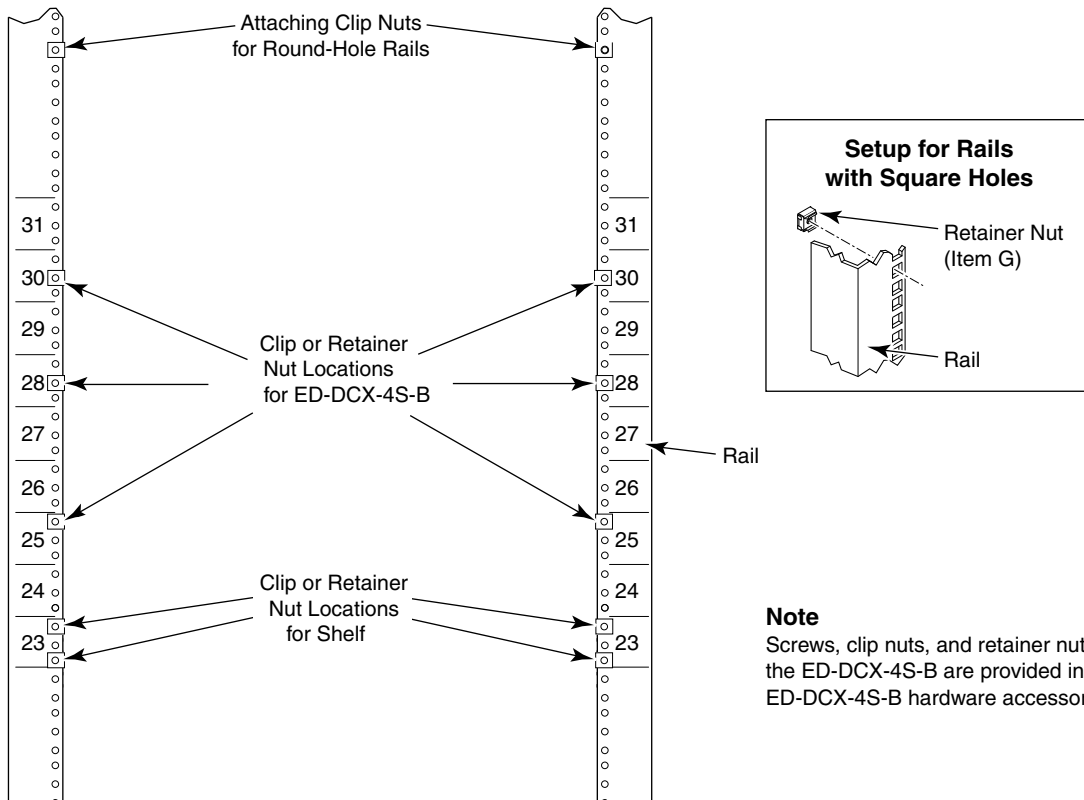

Figure 39 Clip and retainer nut locations on cabinet rails
2. Install clip nuts (F in Figure 38 on page 195) or retainer nuts (G in Figure 38 on page 195) in cabinet rail locations shown in Figure 39 on page 197. These nuts will secure the 10-32 screws that mount the Port Side Exhaust Kit shelf and the ED-DCX-4S-B to the cabinet. For rails with round holes, use clip nuts. For rails with square holes, use retainer nuts. Note that Figure 39 on page 197 shows relative positions for these nuts in the cabinet rails to mount the shelf and ED-DCX-4S-B. You may mount the shelf and the ED-DCX-4S-B in 9 U of cabinet space higher or lower in the cabinet than shown.
Note: For rails with round holes, use the clip nuts (F in Figure 38 on page 195) on the rails for securing the 10-32 screws. For rails with square holes, use the retainer nuts (G in Figure 38 on page 195). Also refer to Figure 39 on page 197.